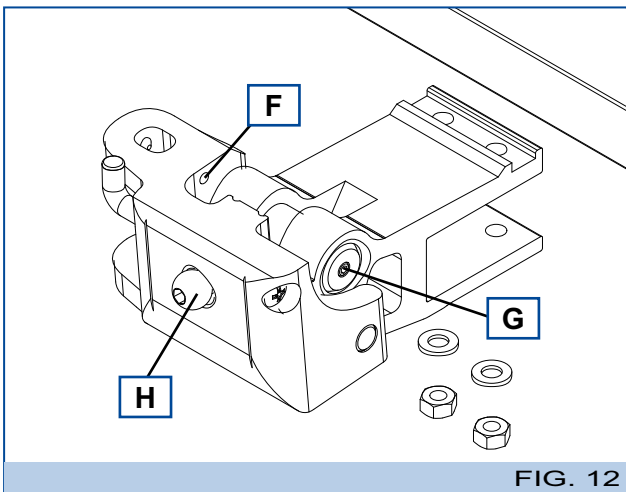
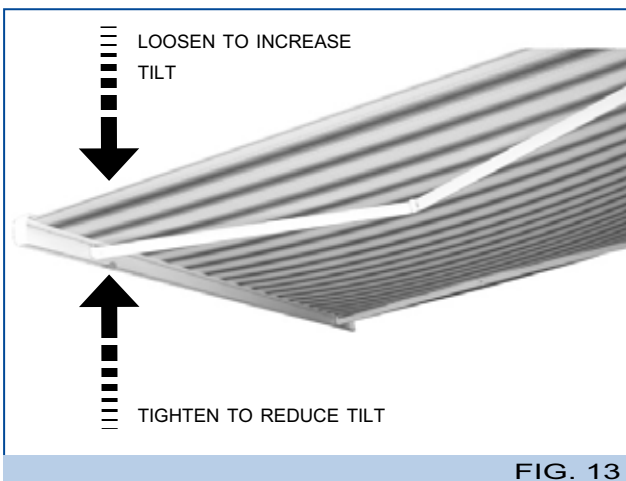

FIG. 12
FIG. 13
- 11 ▪ With the awning open, adjust the screw (H-Fig.12) with a 6mm Allen wrench until the desired tilt is reached (see Fig.13).
- 13 ▪ Once the desired tilt has been reached, fix the position of the awning by tightening the screw (G-Fig. 12) with a 3mm Allen wrench.